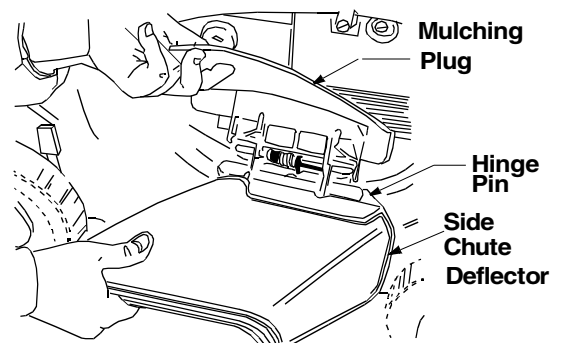

Figure 12
- On the side of the mower, lift the mulching plug and slide the two hooks of the side discharge chute under the hinge pin on the mulching plug assembly. Lower the side mulching plug. See Figure 12 .